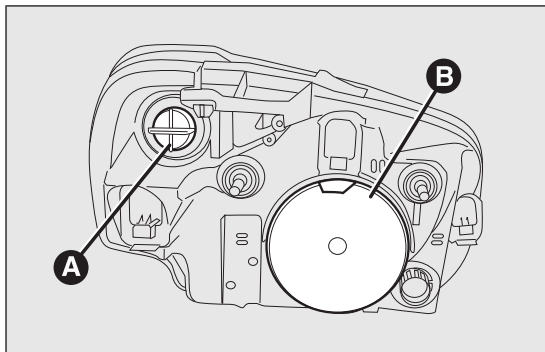
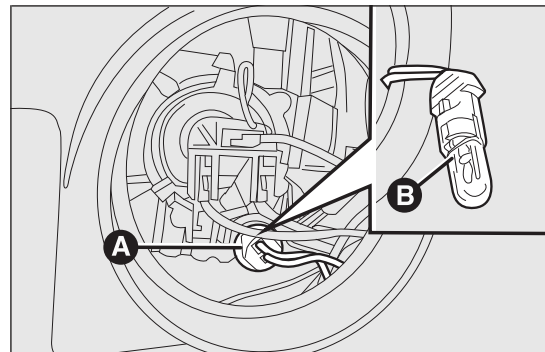

fig. 145
fig. 146
The front light clusters fig. 145 contain sidelight, dipped beam, main beam and direction indicator bulbs.
- ☐ remove the protective lid A fig. 145;
- ☐ turn the bulb holder A fig. 146 anticlockwise and remove it;
- ☐ refit the new bulb, insert the bulb holder A fig. 146 again and then refit the protective lid A fig. 145 correctly.
- ❑ remove the protective lid A fig. 145;
- ❑ refit the bulb holder clip and refit the protective lid A fig. 145 correctly.
- ❑ turn the protective lid B fig. 145 anticlockwise;